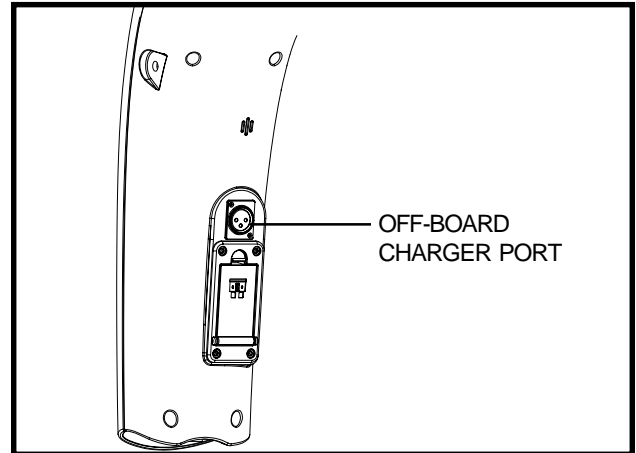

Figure 5. Off-board Charger Port
The off-board charger power lead plugs into this port during battery charging. The off-board charger port is located on the tiller. See figure 5.
5. Plug the 3-pin charger power lead into the off-board charger port. **See figures 5 and 10A.**